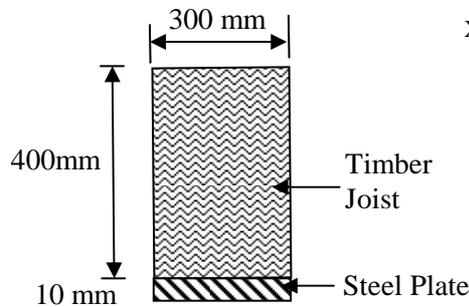

Fig 13. Que 5 (b) OR
- (c) A 300mm wide x 400mm deep timber joist is strengthen by joining 300mm wide x 10mm thick steel plate at its bottom surface as shown in **fig. 13**. The composite beam is simply supported at its ends and carries a uniformly distributed load of 30 kN/m over an effective span of 6m. Find the maximum bending stress in the steel and timber at mid span section. Take $E(\text{steel}) = 210$ GPa and $E(\text{timber}) = 14$ GPa. **06**